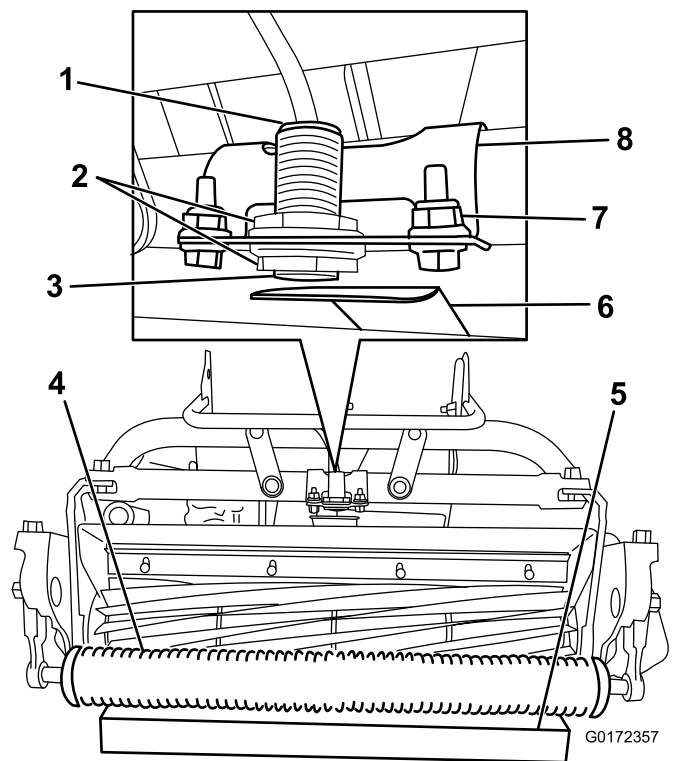

Figure 14
2. Loosen the jam nuts on the sensor and adjust the sensor so that one thread is visible past the lower jam nut (Figure 14).
4. Place a 3.8 cm (1-1/2 inch) block under the front cutting unit roller (Figure 14).
5. Loosen the fasteners securing the sensor bracket to the frame (Figure 14).
8. Rotate the sensor bracket toward the target plate until the light on top of the sensor illuminates (Figure 14). If it was already illuminated, rotate it away from the target plate until it goes out and then reverse direction just until it illuminates again.